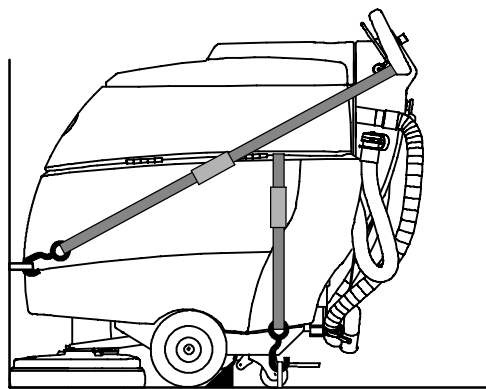

FIG. 73
6. Secure with tie-down straps as shown (Figure 73). It may be necessary to install tie-down brackets to trailer or truck.